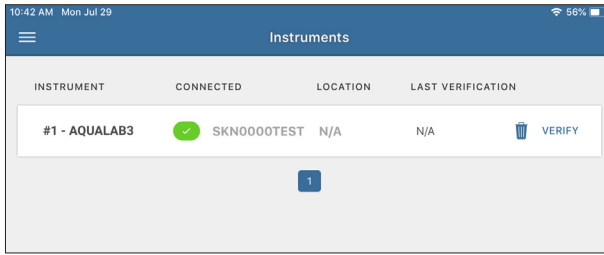

Figure 80 Instrument online and visible to NEXUS
4. Select VERIFY located at the far right of the AQUALAB 3 line (Figure 80).